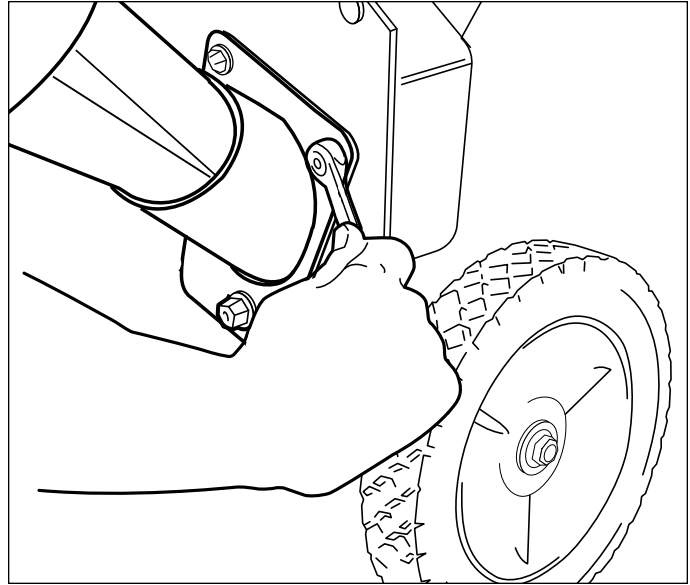

Figure 15. Installing the Chipper Cone
5. Remove the chipper cone base (Figure 15).